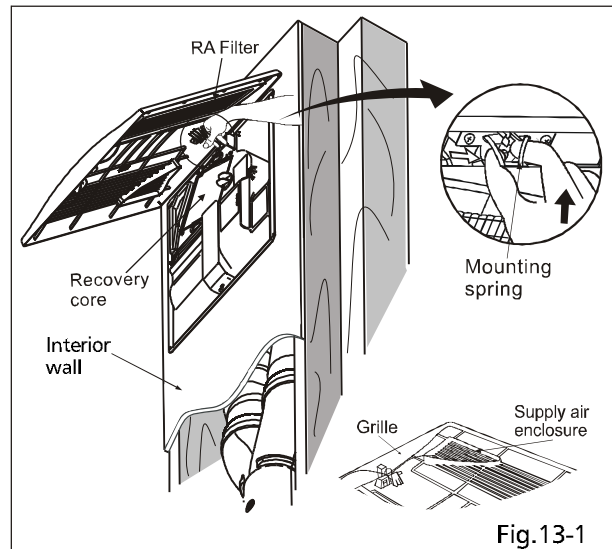

Fig.13-1
8. Turn the grille to the appropriate direction to fit the triangular supply air side. Insert mounting springs into slots as shown and mount grille to fan body. During installation of the grille, keep the recovery core to the left and keep the RA filter to the right of your position. (Fig.13-1)